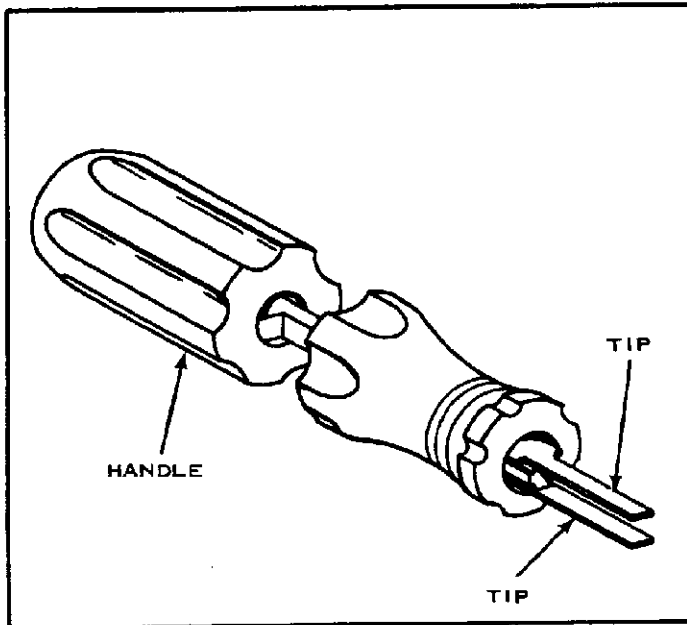

FIG. 1
1. This Tool (see Figure 1) is used to extract A-MP Type XII Contacts from their Housings. A list of the Contacts is shown in the chart in Figure 2. Read these instructions carefully before using the Tool.